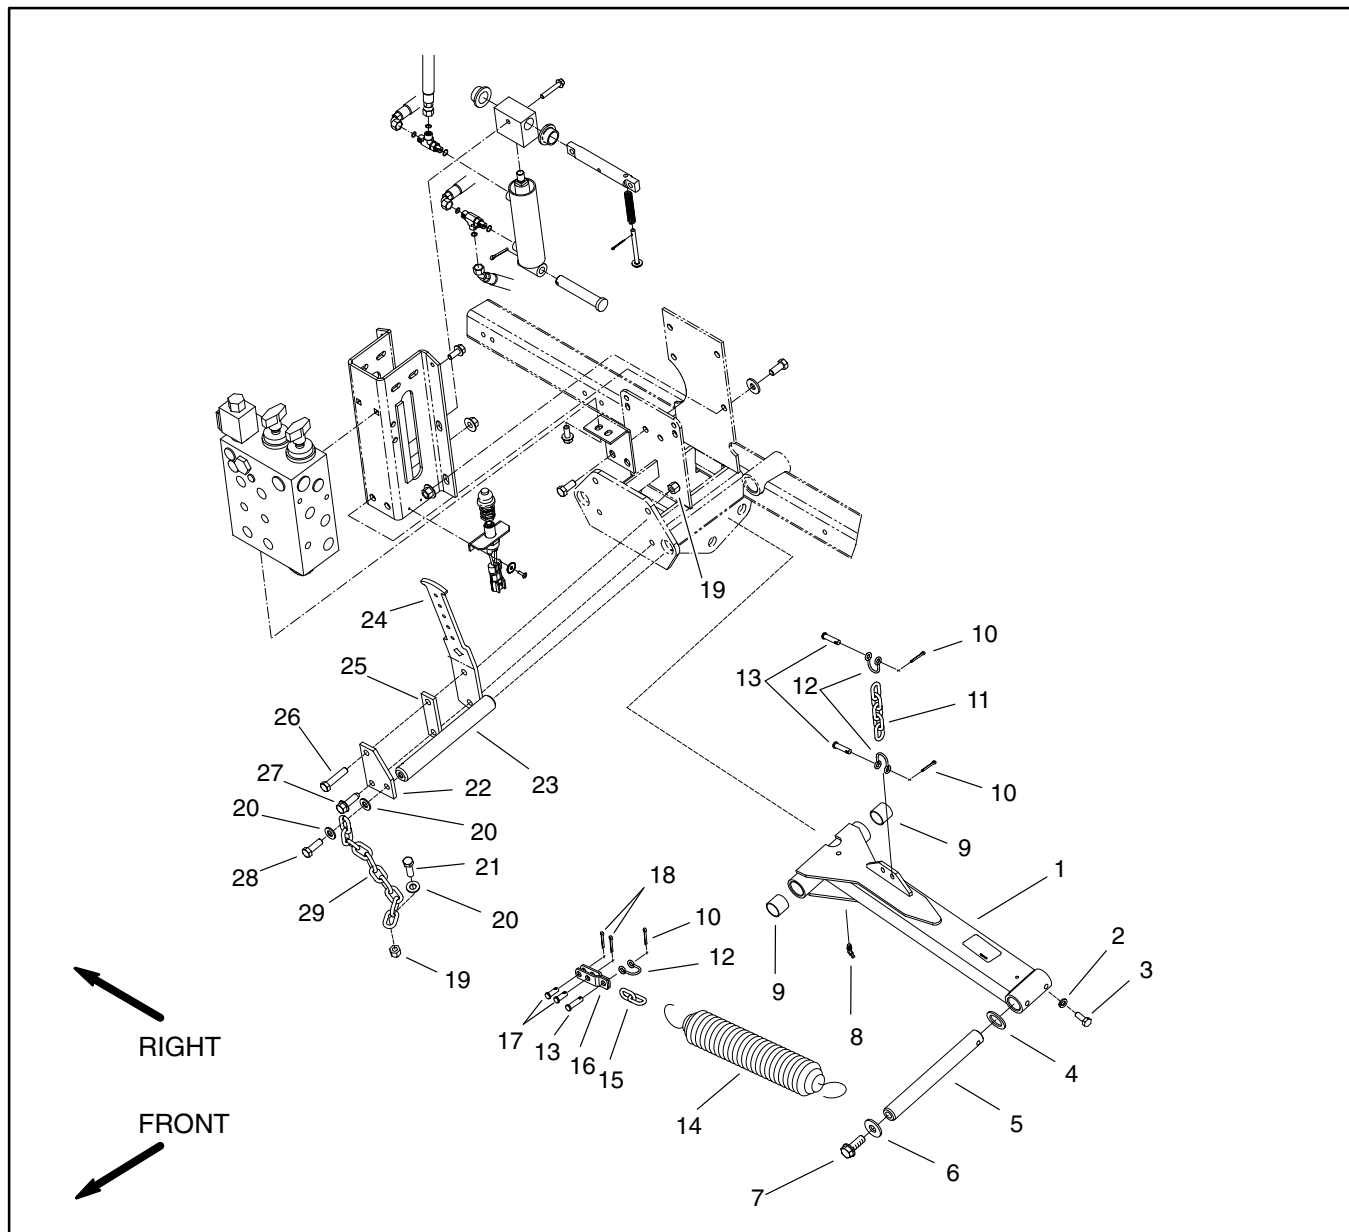

Figure 8
2. Remove front lift arm components from machine using Figure 8 as a guide.
1. Install front lift arm components to machine using Figure 8 as a guide. Mount cutting unit to lift arm (see Traction Unit Operator's Manual).